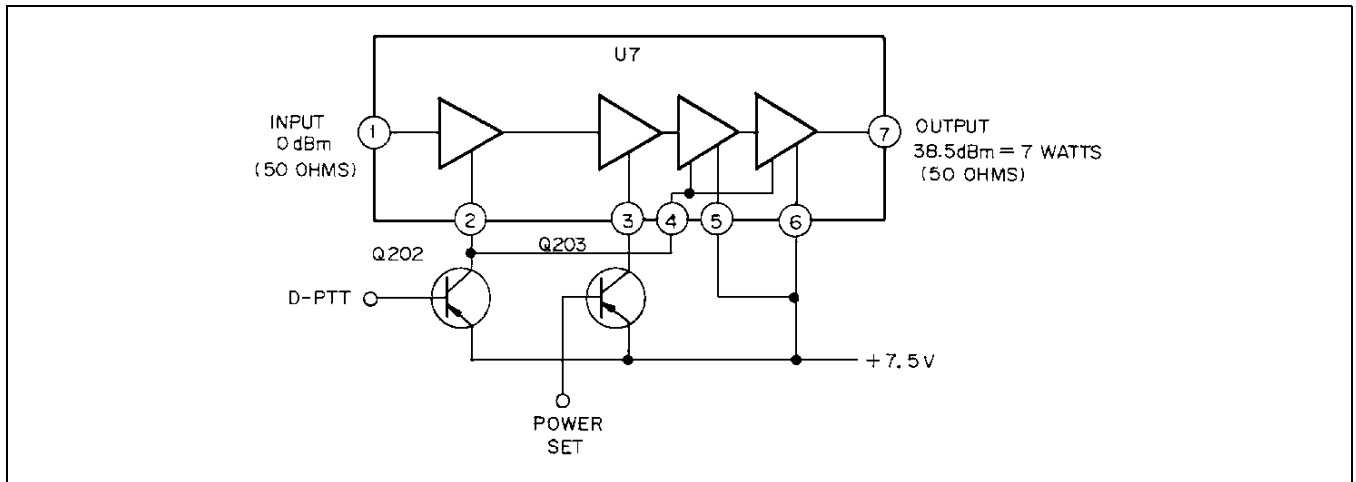

Figure 4 - Power Amplifier (PA) UHF
Power Amplifier (PA) U7 is a four-stage, wideband amplifier module with an input and an output impedance of 50 ohms (Figure 4). The second stage of the PA module has the dc power supplied by power set transistor Q203. The rf power output from amplifier is connected to pin 1 of the PA module where it is applied to the input of the RF power amplifier stages. The RF power amplifier stages amplify the input from the Tx-Amp module to a typical power output level of seven watts at pin 7. The output at pin 7 is connected through the LPF/DC/SW module. A minimum power level of five watts is on the output of the LPF/DC/SW module.